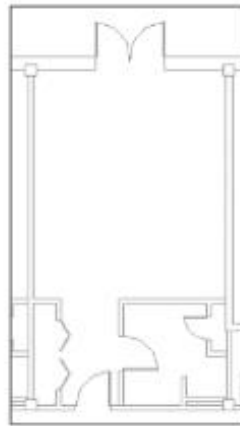

Figure 7–35
11. Click **OK** to close the dialog box. The view should display with all existing elements in halftone, as shown in Figure 7–35.